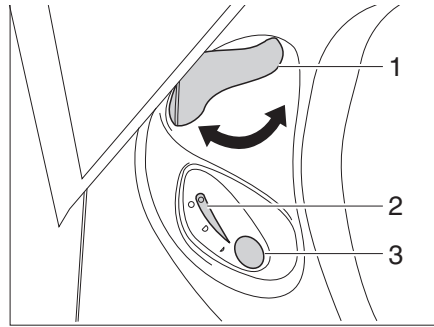

Fig. 349 Operating unit Thetford toilet
- Before flushing open the sliding trap of the Thetford toilet. To do this, turn the slide lever (Fig. 349,1) in an anticlockwise direction.
- For flushing, press the blue flush button (Fig. 349,3).
- After flushing close the sliding trap. To do this turn the slide lever (Fig. 349,1) in a clockwise direction.
The indicator lamp (Fig. 349,2) goes on whenever the Thetford cassette has to be emptied.
- Turn the slide lever (Fig. 349,1) in a clockwise direction. The sliding trap is closed. To empty, the sliding trap in the Thetford toilet **must** be closed.